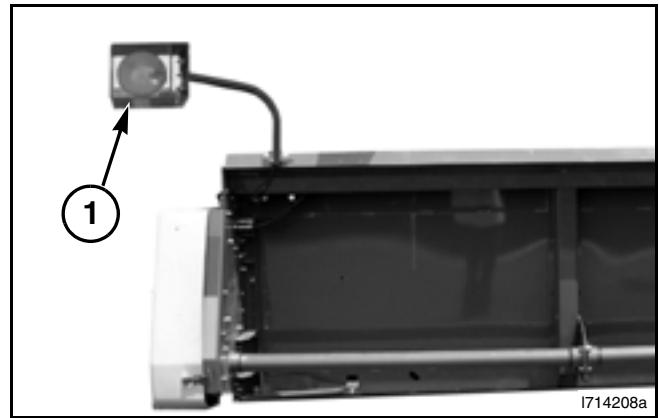

FIG. 61
FIG. 61: Header extremity lights (1) are factory installed. When transporting with the header installed on the machine, pivot the left-hand and right-hand lights to the position shown.